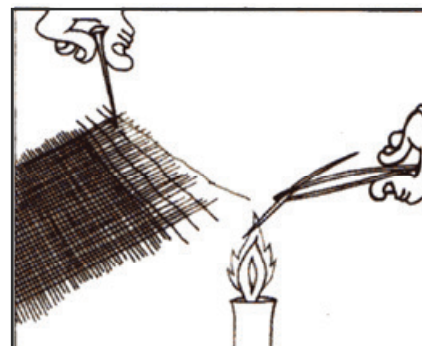

Fig. 4.10: Burning Test
- Take the sample near flame (as shown in Fig. 4.10) and observe the reaction of fibre when it is approaching the flame.